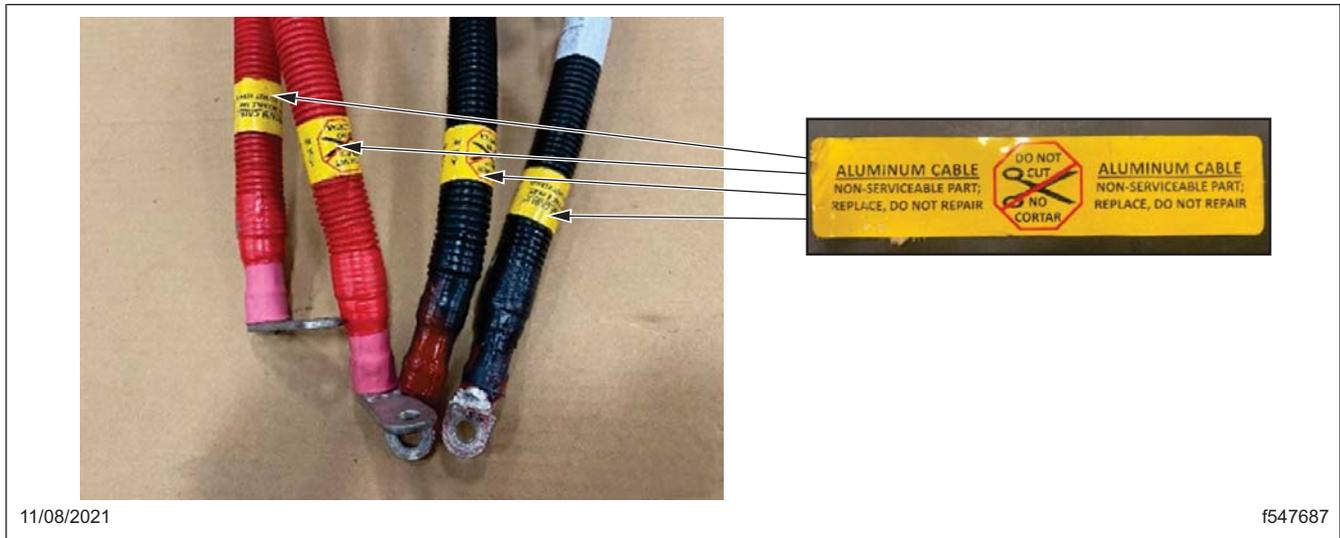

Fig. 34, Powernet Battery Cables Made of Aluminum
- The aluminum 4/0 cables are attached with a yellow label on each end indicating they are made of aluminum. See Fig. 34.